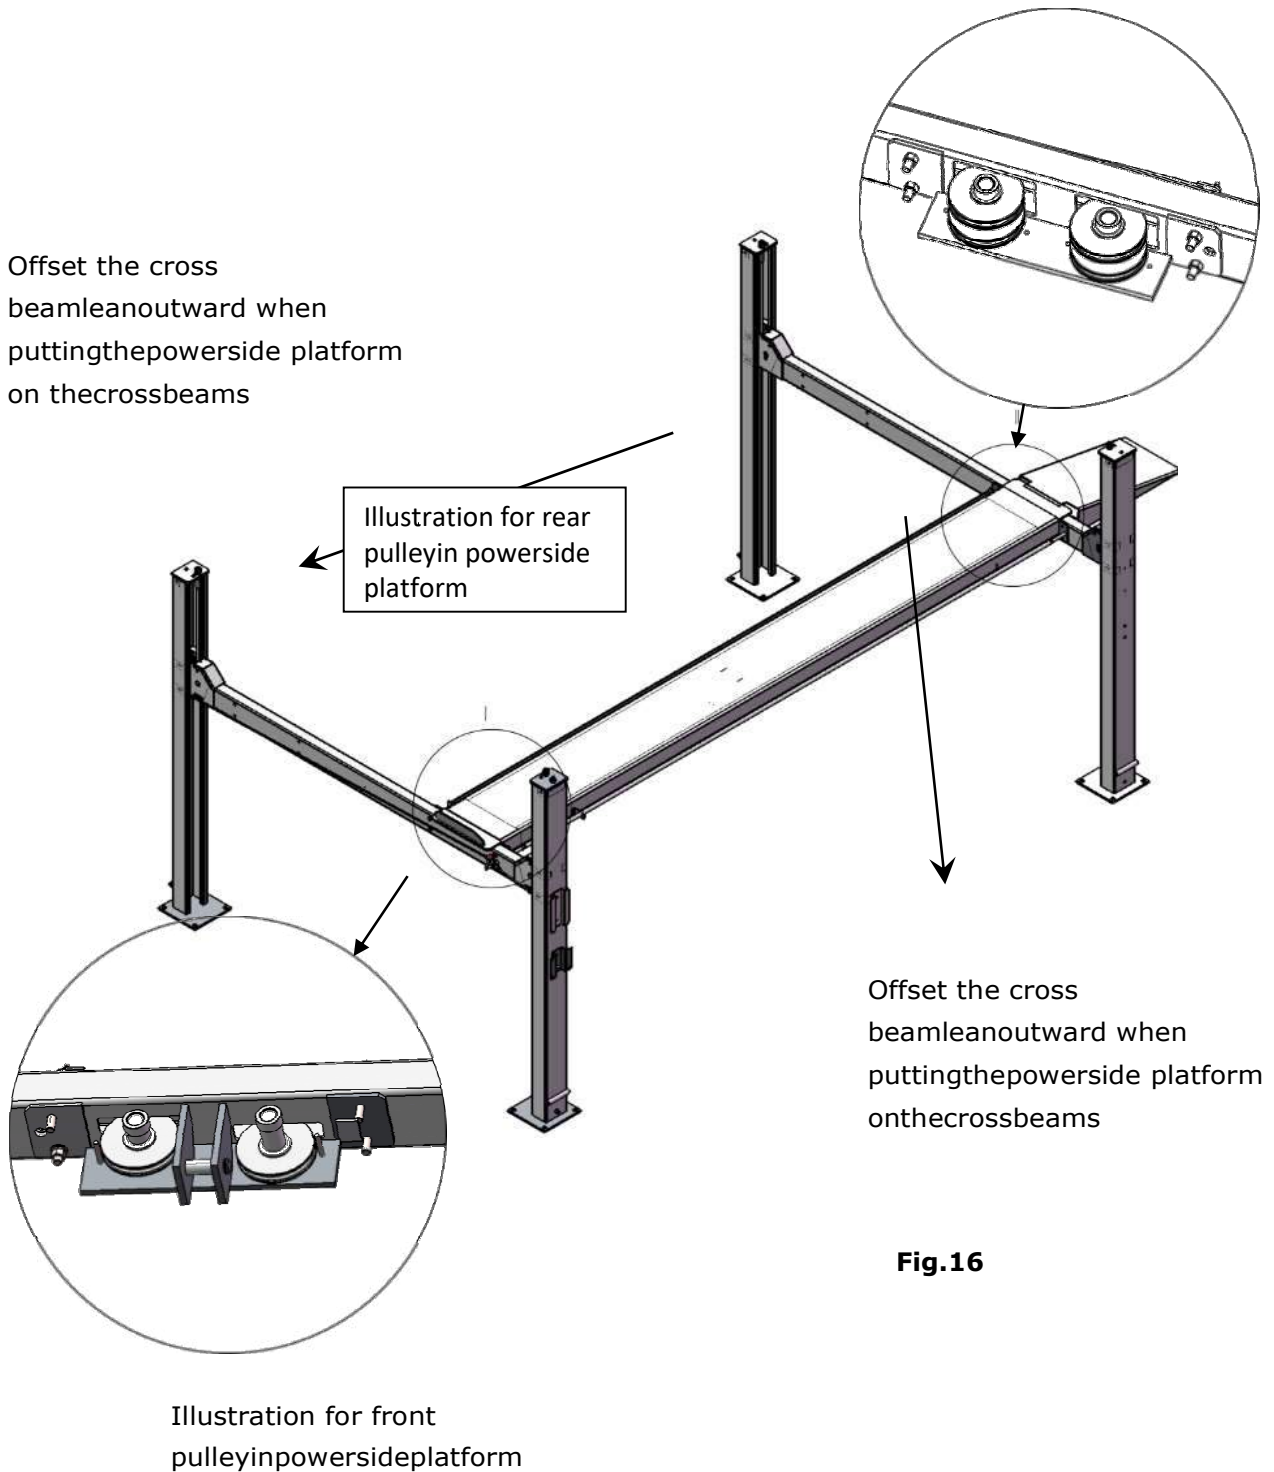

Fig.16
1. Raisethepowersideplatformabovevethcrossbeambyaforkliftorcrane.Thenmovethecrossbeamoutwardsuntilthepulleysofbothplatformscanberestedintothecrossbeams'slots (see **Fig.16**). Tighten the Powerside Platform to the Cross beams by usingbolts.